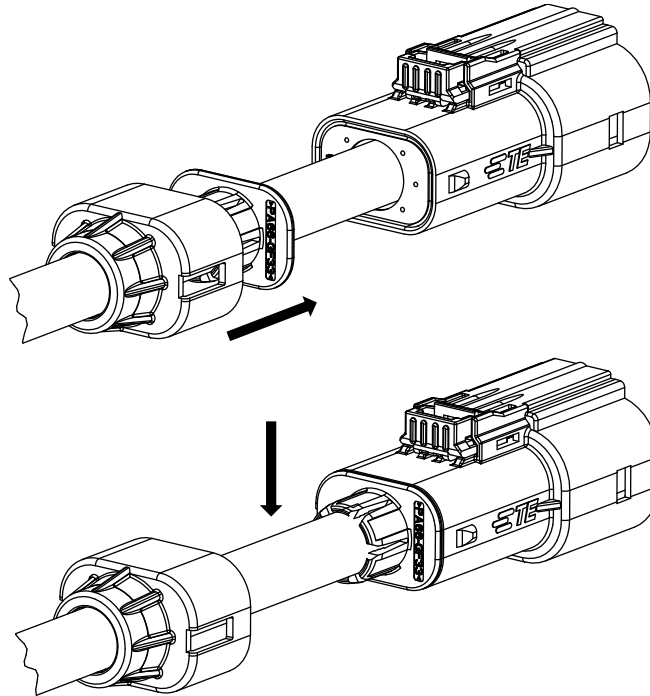

Figure 18
17. Slide the collet forward on the cable until it stops against the outer housing as shown in Figure 18.